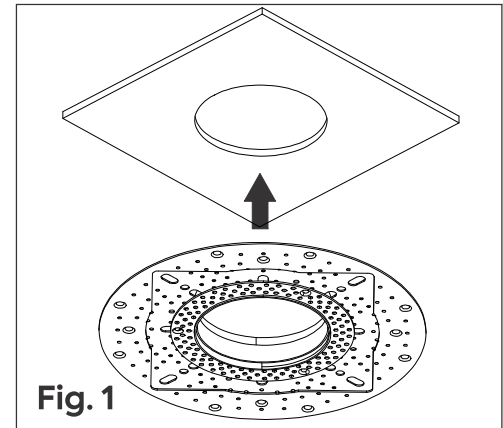

Fig. 1
Step 2: Center the downsizer ring with the opening in the ceiling and make sure there is sufficient material on all sides of the opening **Fig. 1**.